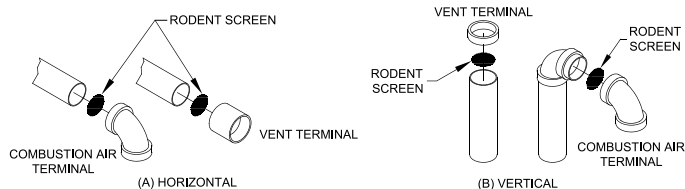

Figure 4-33: Rodent Screen Installation, Horizontal Vertical, Straight Vent Terminations
- Install rodent screen and vent terminal (supplied with boiler). See Figure 4-33 for appropriate configuration details.
- Install rodent screen and combustion air terminal (supplied with boiler). See Figure 4-33 for appropriate configuration details.
- Install rodent screen and vent terminal (supplied with boiler, see Figure 4-33 for appropriate configuration).
- Install rodent screen and combustion air terminal (supplied with boiler). See Figure 4-33 for appropriate configuration.
- Install rodent screen and vent terminal (supplied with boiler). See Figure 4-33 for appropriate configuration.